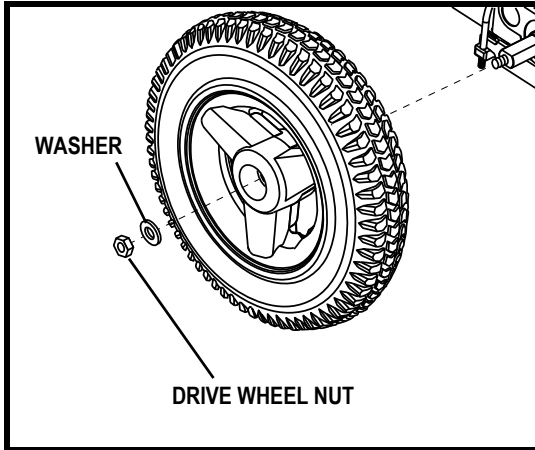

Figure 25. Drive Wheel Removal
4. Remove the drive wheel nut and washer from the axle. See figure 25.